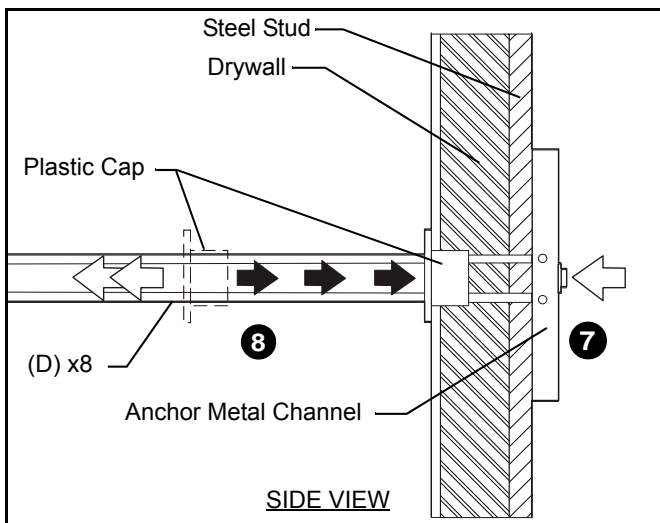

Figure 5
7. Holding plastic straps on anchor (D), pull anchor away from wall until channel rests flush behind wall making sure anchor channel is positioned vertically on stud. (See Figure 5)
8. Slide plastic cap on anchor (D) towards wall until flange of cap is flush with wall. (See Figure 5)